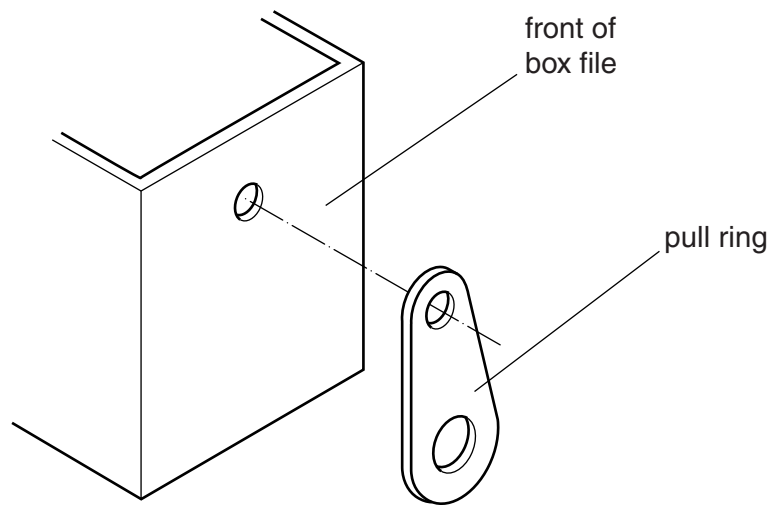

Fig. 8
- (b) Fig. 8 shows a pull ring. The pull ring is to be fastened to the front of the box file to make the box file easier to use. The pull ring is to be made from 3 mm thick flexible plastic.